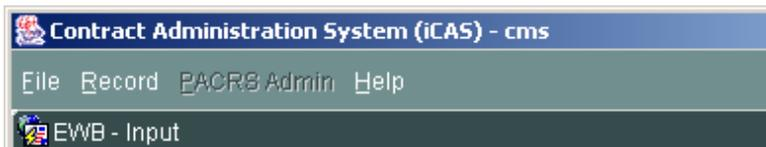

Figure 6. Command Menu
2. Click on **Change Password**. The screen displayed in Figure 6 will appear.